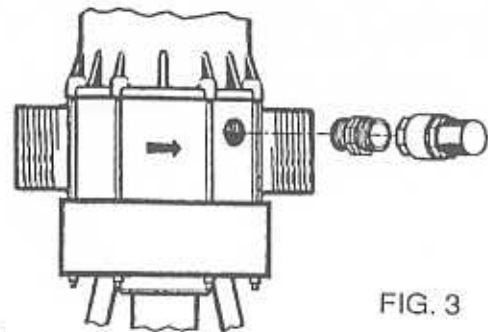

FIG. 3
- Screw the assembly into the body (Fig. 3).